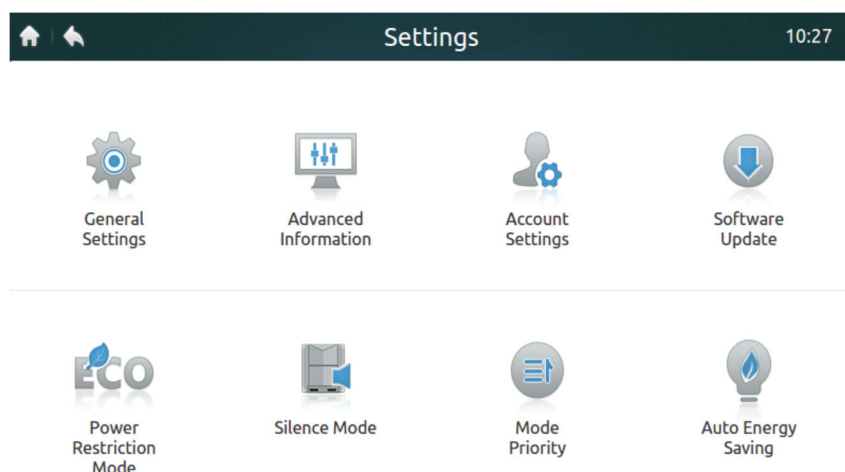
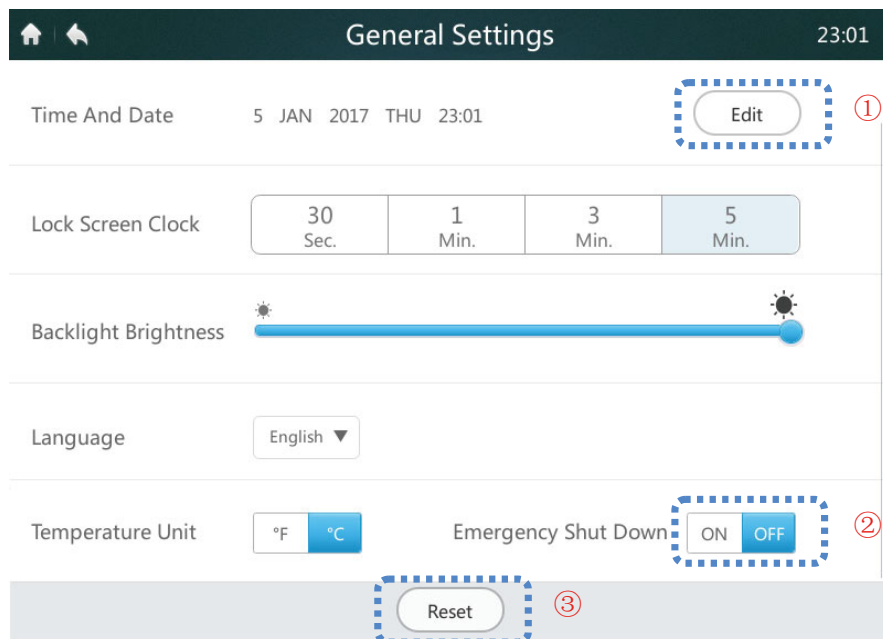
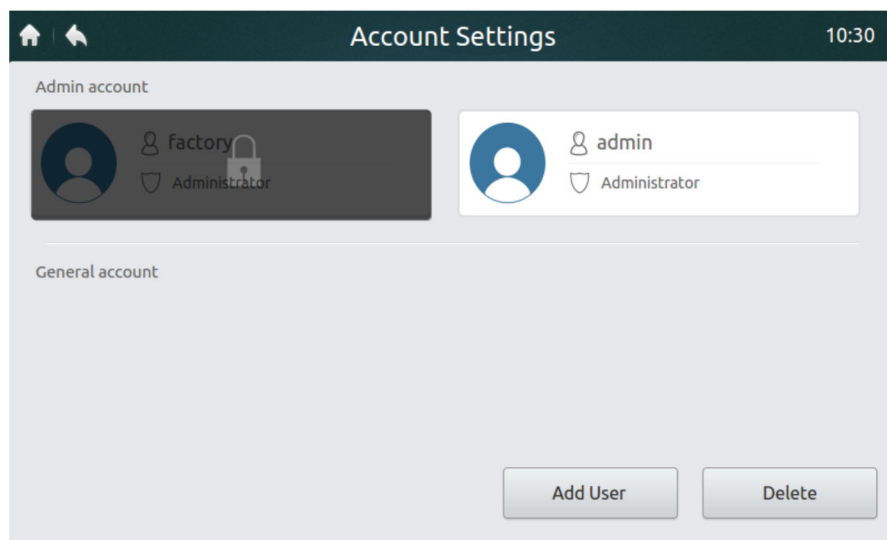

Figure 41 Homepage of Settings page
Figure 42 Homepage of General Settings
Figure 47 Homepage of Account Settings page
1. Tap "General Settings" in Figure 41 to enter the interface, as shown in Figure 42.
2. Tap the "Edit" button marked "1" in Figure 42 to access the interface below.
If an emergency occurs, tap the button marked "2" in Figure 42 to enable emergency shutdown. The centralized controller will send a shutdown command to all the IDUs and lock the remote controller. The IDUs can be restored only after the emergency switch is disabled.
Only the installation technician or administrator can enable the reset function. Tap the "Reset" button marked "3" in Figure 42 to delete user information (including the schedules, groups, common user accounts and reports), and restore the default settings (including the date, screen locking time, backlight, language, temperature and daylight saving time). The prompt will be displayed by tapping the "Reset" button. To confirm the operation, tap the "Yes" button to continue and restart the centralized controller. Tap the "No" button to cancel the reset.
2. Tap "Advanced Information", as shown in Figure 41, to enter the interface below. You can select to view the ODU or IDU parameters. For details, see Tables 12 and 13.
2. Tap "Account Settings", as shown in Figure 41, to enter the interface, as shown in Figure 47.
3. Tap the "Add User" button in the lower right corner of Figure 47 to display the interface below. Enter the user name and password (enter the password twice), and then tap the "Add" button to save the setting. Tap the "Cancel" button to cancel the setting.
4. Tap the "Delete" button in the lower right corner, as shown in Figure 47, to display the icon in the top right corner of common user account, as shown below. Tap the icon in the top right corner of the user to be deleted.